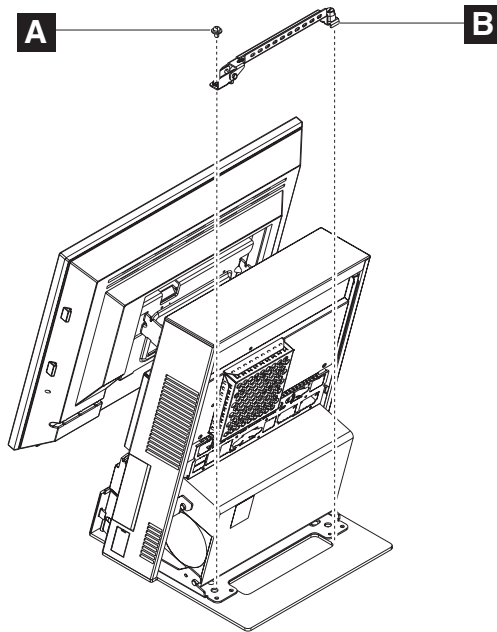

Figure 38. Power supply remove/replace
4. Remove the screw **A** and thumbscrew **B**, as shown in Figure 38.